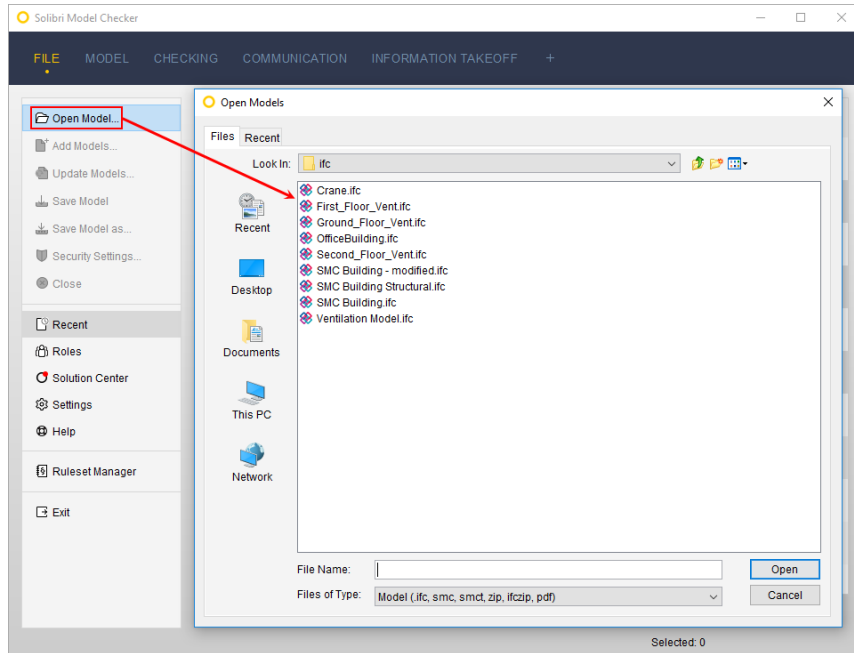

Figure 8: Open Models Dialog
- 1) When you click **Open Model** on the left sidebar menu, you will see the **Open Models** window that shows sample files (see *Figure 8*).